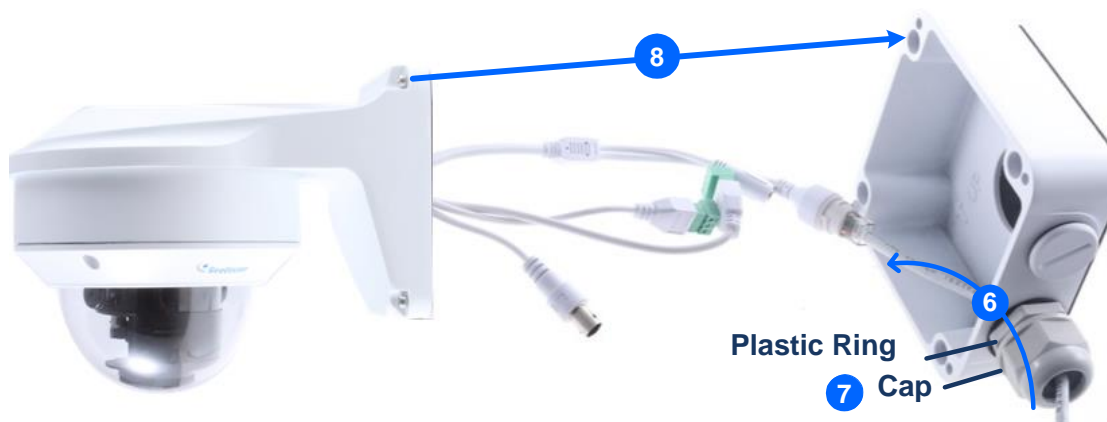

Figure 1-94
8. Screw the wall mount bracket to the power box, as shown in No. 8, *Figure 1-94*.